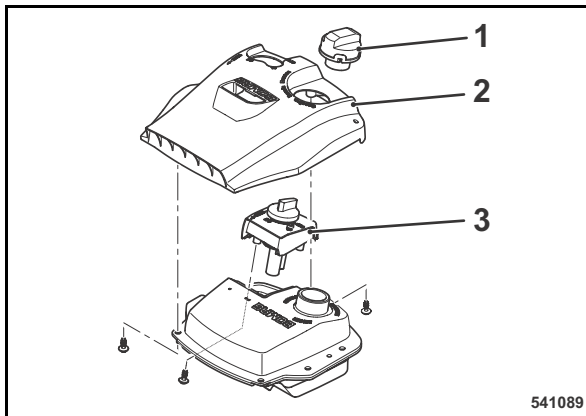

Fig. 55
- Clean the area around the tank cover, unscrew the tank cover (1) (Fig. 55).
- Unscrew 3 fastening screw from the cover (2) and take off the cover.